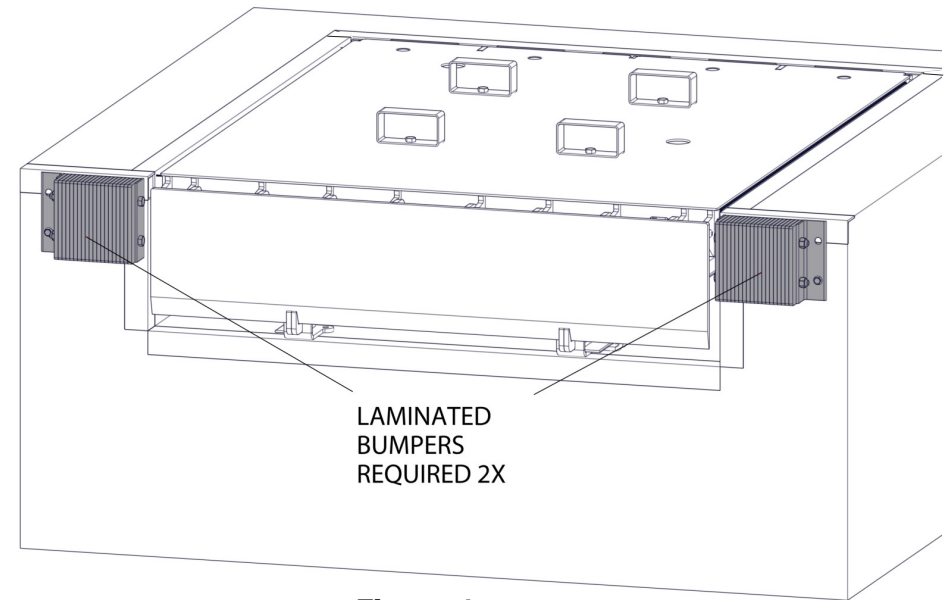
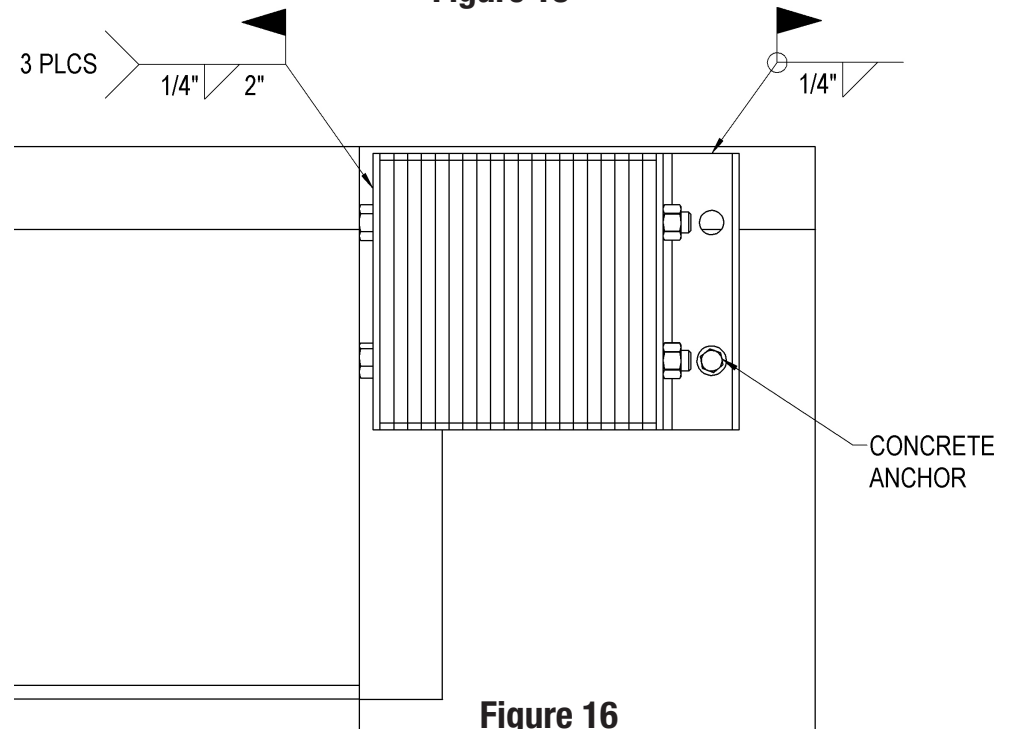

Figure 15
Figure 16
2. Installation will be accomplished by a combination of welding and concrete anchors, as shown in **Figure 15** and **Figure 16**.